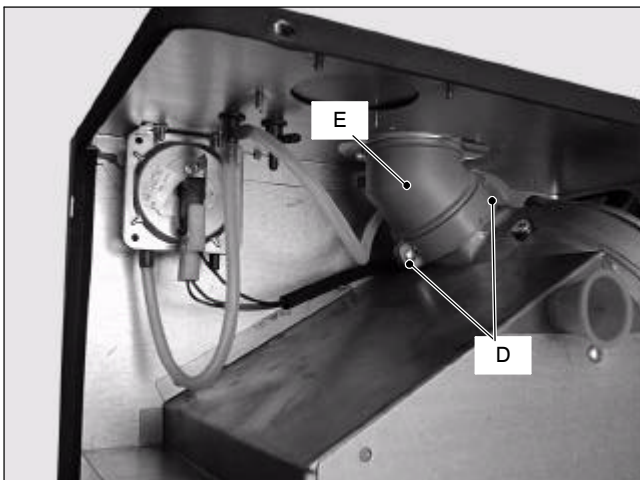

Fig. 70
- 4 Unscrew the screws D and remove the clamp E (Fig. 70).